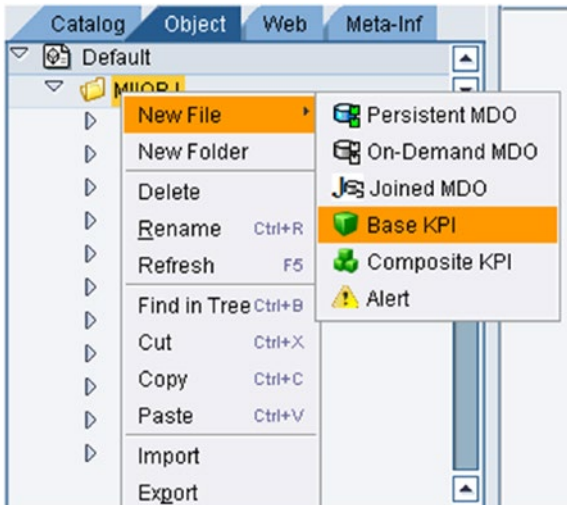

Figure 7-85. Selecting Base KPI
4. Select New File ► Base KPI, as shown in Figure 7-85.